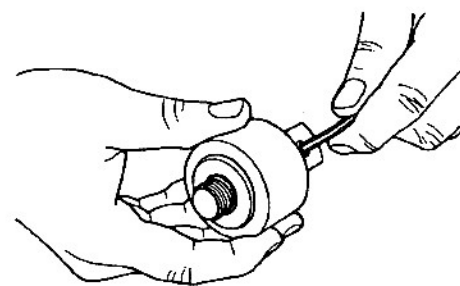

Fig. 42
52. Use a 5/32" Allen wrench to loosen the arbor's setscrew (200), as seen in Fig. 42.